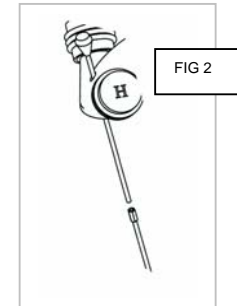

FIG 2
- The two piece rod, which can be fitted in two ways, top half through the mixer, bottom half from the underside, or handle removed and rod through mixer from the underside, then re-connect handle (see FIG 2).